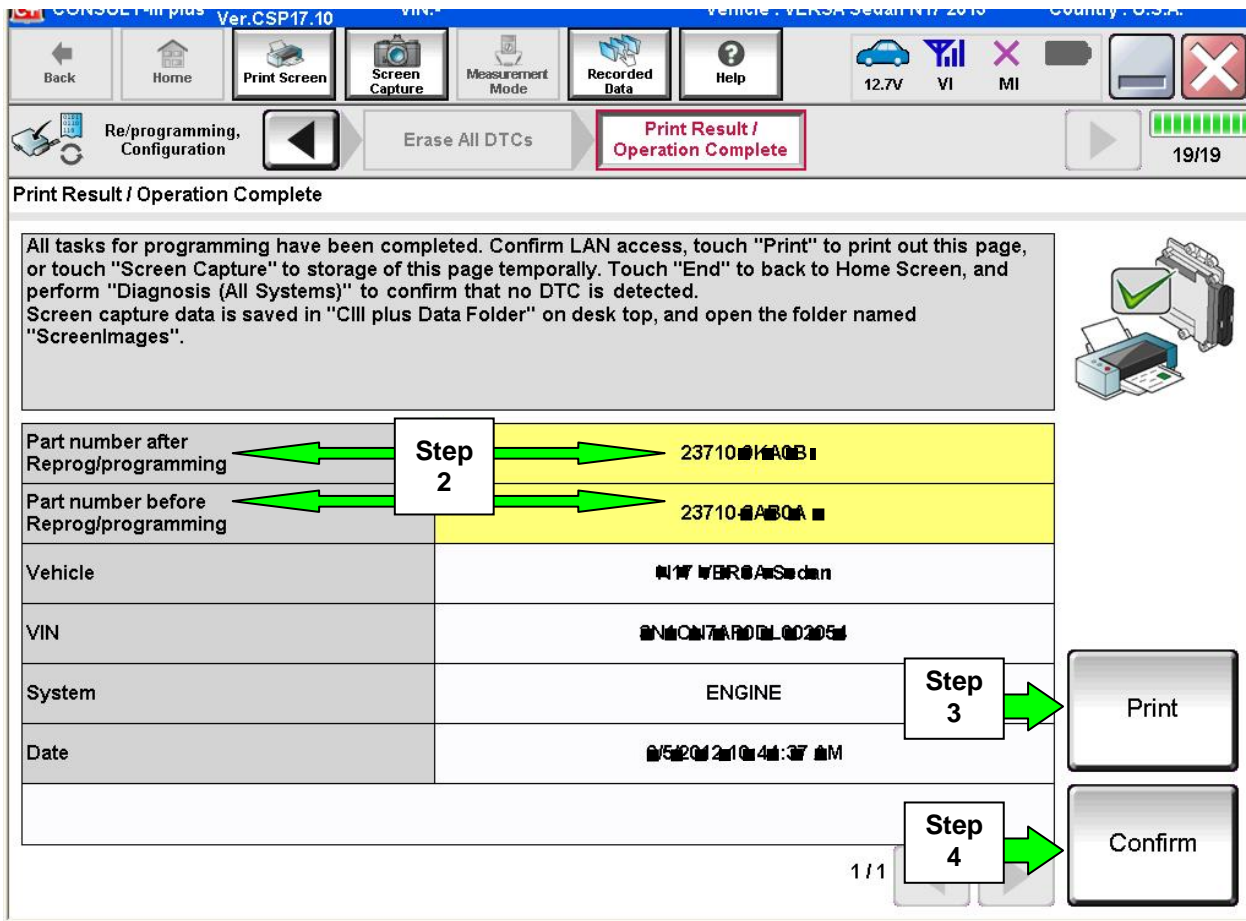

Figure 21a
If programming does not complete and the “X” symbol displays as shown in Figure 21a:
2. Verify the before and after part numbers are different (see Figure 21a).
3. Print a copy of this screen (Figure 21a) and attach it to the repair order.